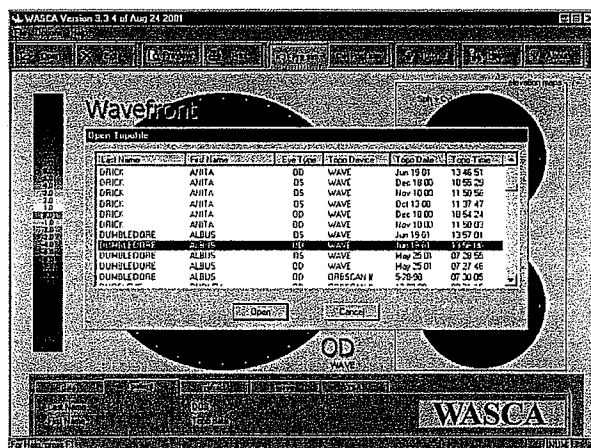

Fig 3: Patient selection menu
- Press the "OPEN"-button and select the patient out of the list (Fig. 3)